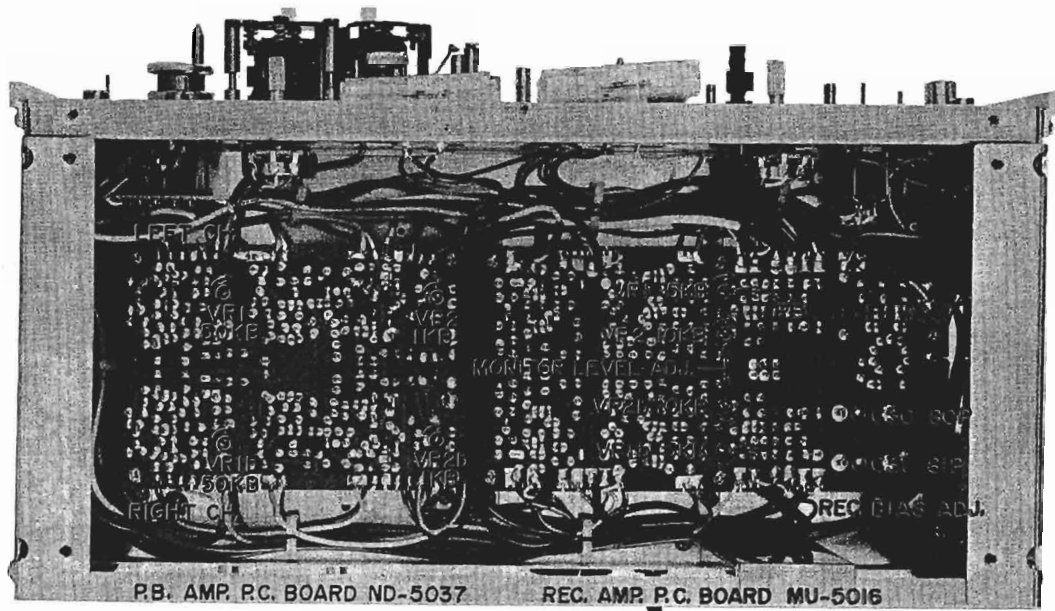

Fig. 19
- 4) Adjust Playback Amp. P.C. Board semi-fixed resistors VR1 50 k $\Omega$  (left ch.), and VR1b 50 k $\Omega$  (right ch.) shown in Fig. 19 to obtain a high sensitivity V.T.V.M. indication of 4 dB (1.228V) line output level on both channels.
After playback level adjustments has been completed, with the playback level of both channels at 4 dB, adjust P.B. Amp. P.C. Board semi-fixed resistors VR2 1 k $\Omega$  (left ch.) and VR2b 1 k $\Omega$  (right ch.) shown in Fig. 19 to obtain a left/right VU meter indication of 0 VU.
- 5) Adjust Recording Amp. P.C. Board semi-fixed resistors VR2 10 k $\Omega$  (left ch.) and VR2b 10 k $\Omega$  (right ch.) shown in Fig. 19 to obtain a high sensitivity V.T.V.M. indication of 4 dB (1.228V) line output level on both channels.
- 7) Adjust Recording Amp. P.C. Board semi-fixed resistors VR1 5 k $\Omega$  (left ch.) and VR1b 5 k $\Omega$  (right ch.) shown in Fig. 19 to obtain a high sensitivity V.T.V.M. indication of 4 dB (1.228V) line output level on both channels.
- 6) Adjust Recording Amp. P.C. Board Trimmer Condenser C30 80p max (left ch.) and C31 80p max (right ch.) shown in Fig. 19 until the same high sensitivity V.T.V.M. indication level is obtained on both the left and right channel at the two frequencies described in Items 5-4) and 5-5) above.